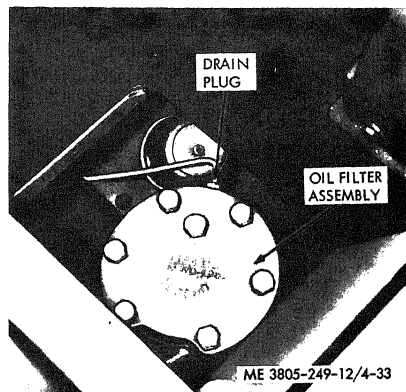

Figure 4-33. Transmission oil filter.
(2) Remove the filter housing drain plug (fig. 4-33) and allow the oil to drain.